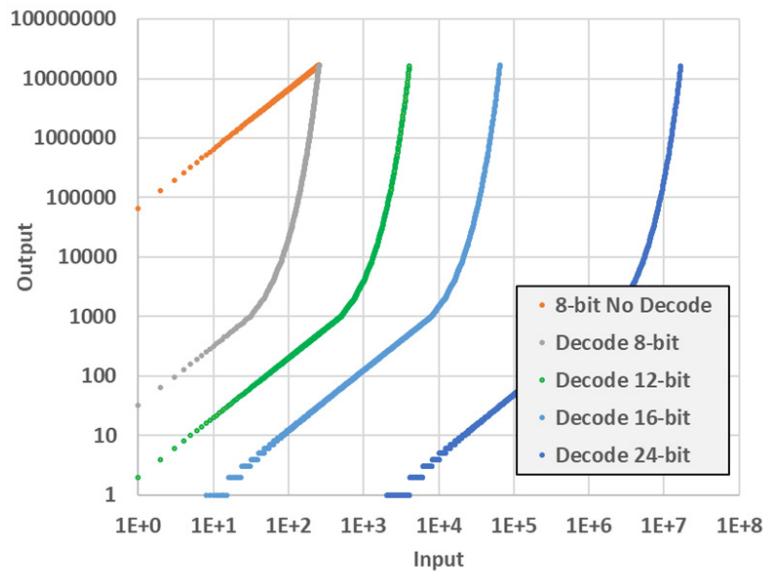

Figure 9. Decode Curves
Figure 9 shows how data are mapped into the internal 24-bit registers when using 8-bit color depth without decode and all four color depth options with decode. 8-bit data without decode simply maps into the upper 8 bits of the 24-bit register and because the PWM output is linear, the 8-bit dynamic range is less than 3 orders of magnitude (255). Using 8-bit color depth with the decode options expands the dynamic range of the 255 levels to achieve 19-bit dynamic range. This option pair may be suitable for most applications. While there are still only 255 grey levels, they are spread out well so that adjacent grey levels are difficult for the human eye to notice. While the 8-bit with decode options only utilize 19 of the 24 available bits of dynamic range, some of the extra 5 bits of range can be used for calibration and thermal compensation as both adjust the curve down according to their respective values.
The higher bit depth options in figure 9 show that the 12-bit color depth option with decode (color option 1 has both 12 and 14-bit) utilizes the full 24-bit dynamic range. 14, 16, and 24-bit options also map to the full 24-bit internal register, but the usefulness of the decode option diminishes as the input color depth increases. Since the higher input bit depths map beyond 24-bit, many of the lower input levels map to duplicate output levels. Using the 24-bit input depth with decode changes the transfer characteristic at a cost of resolution. It is expected that designers using 24-bit would choose to utilize the direct raw access to the internal register without using the decode option.